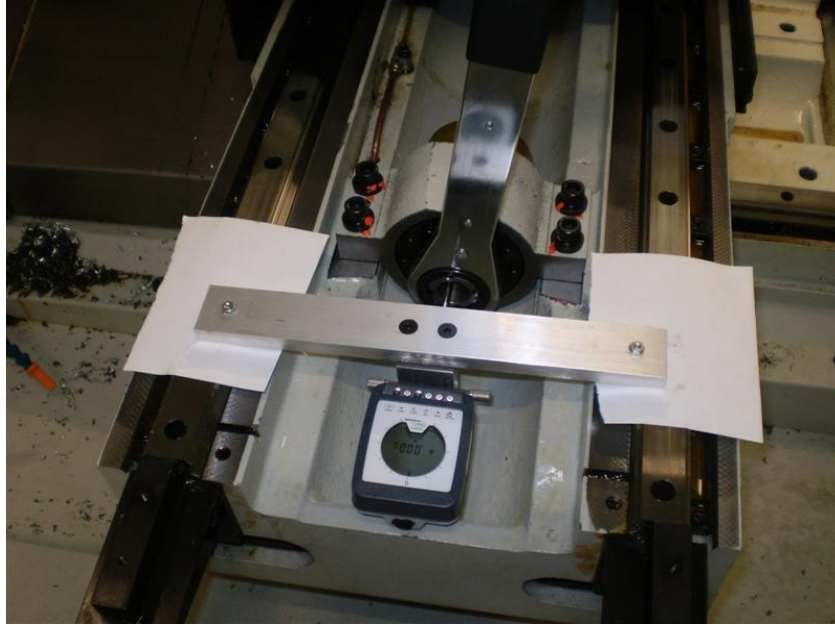

Figure 6.8.3b
4. Insert a 8mm hex key into the Ballscrew hex drive at the motor end to prevent the rotation of the Ballscrew while pre-tensioning, see figure 6.8.3b
5. Set-up an indicator at the support end as shown in figure 6.8.3b, loaded approximately .002" then reset to zero. This indicator will measure pre-tension. Pre-tension is the indicated reading at the support end, less the indicated reading at the motor end. i.e. if the motor end indicator reads .0008", the indicated reading at the support end must read .0038" giving us the desired net pre-tension of .0030".